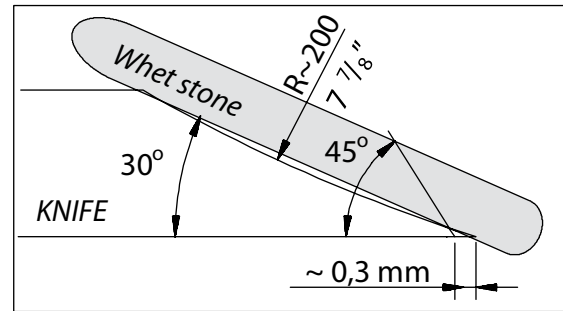

Fig. 22. The profile of a concave knife
The new knives are sharpened to a concave shape, $R=200$. The sharpening angle is 30° and hone angle is 45° . The hone angle prevents the edge from breaking. Fig. 22.
2. Insert the NO STRESS sensor into the hole (20 mm). The black tip of the sensor must be approx. 1-3 mm apart from the pin of the end plate. Turn the cutting disk to make the pin visible in the slot of the shaft guard. The distance between the sensor and the pin can be checked through the slot (see fig. 22). If the sensor distance is correct, tighten its fastening nuts.